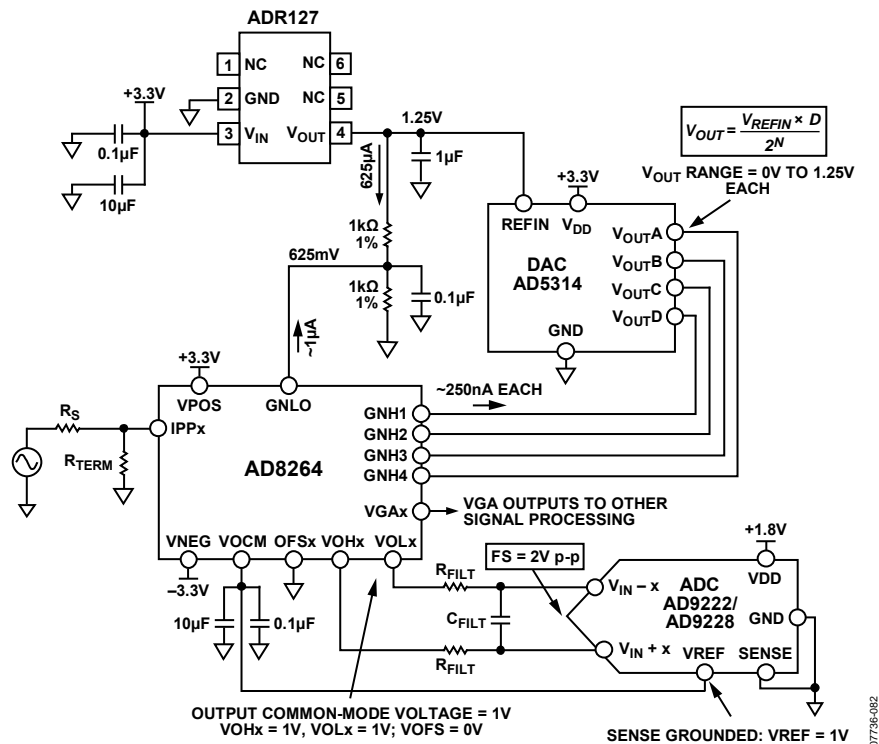
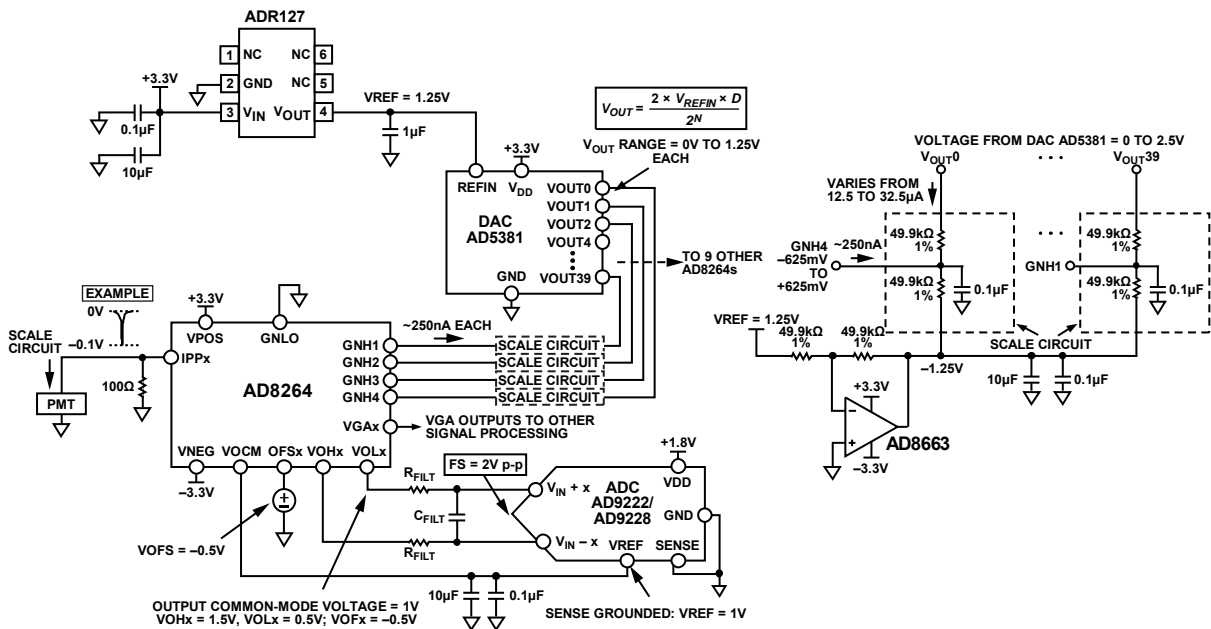

Figure 112. Application Concept of the **AD8264** with the **AD5314** 10-Bit DAC and the **AD9222/AD9228** 12-Bit ADC
Figure 113. Concept Application of AD8264 with 40-Channel AD5381 12-Bit, 3 V DAC and AD9222/AD9228 12-Bit ADC
The **AD8264** is particularly well suited for use in the analog front end of medical PET imaging systems. Figure 112 shows how to use the **AD8264** with the **AD5314** (a 4-channel, 10-bit DAC) and the **AD9222/AD9228** (an octal or quad, 12-bit ADC, respectively). The DAC sets the gain of the **AD8264**. Note that the full gain span of 24 dB is achieved with this setup because the gain control input range of the **AD8264** is very close to 1.25 V. The GNLO pin must offset by $1.25/2 = 625$ mV because the gain control input is bipolar around the voltage applied at GNLO. This is done with two 1 k Ω , 1% resistors. The approximately 1 μ A of bias current flowing from the GNLO pin does not contribute a significant error because the basic gain error of the **AD8264** is the limiting factor.
Figure 112 also includes the DAC output equation, which indicates that the output can vary between 0 V and $V_{REF} = 1.25$ V.
The single-ended-to-differential amplifier of the **AD8264** amplifies the VGA output signal by 6 dB and can provide the required dc bias of the **AD9222/AD9228**, as shown in Figure 112. The ADC is connected with the default internal reference because the SENSE pin is grounded. With this connection, the **AD9222/AD9228** VREF pin is an output that provides 1 V; this is then connected to the V_{OCM} input of the **AD8264**, which sets the output common-mode voltage of the V_{OHx} and V_{OLx} pins to 1 V. This voltage is very close to the recommended optimal value of $V_{DD}/2 = 0.9$ V. With this configuration, the ADC inputs are set to a full-scale (FS) of 2 V p-p.
The dc connected concept example in Figure 113 is an application with the 40-channel AD5381, 3 V, 12-bit DAC. The main difference between this example and Figure 112 is that, for the same ADR127 1.25 V reference, the full-scale output of the DAC is from 0 V to $2 \times VREFIN = 2.5$ V. Two options for gain control include the following:
- Use the same circuit as in Figure 112 but use only half the DAC output voltage from 0 V to 1.25 V. This is the simplest solution, requiring the fewest extra components. Note that the overall gain resolution increases by one bit to 11 bits over the 10-bit AD5314.
- Ground GNLO and scale the DAC output so that the GNHx inputs vary from -0.652 V to $+0.625$ V. Figure 113 shows a possible circuit implementation using a divider between the DAC output and a -1.25 V reference.
Figure 113 shows how the AD8264 is connected in a PET application. The PMT generates a negative-going current pulse that results in a voltage pulse at the preamplifier input and a differential output pulse on VOLx and VOHx.
A convenient method of verifying and customizing the signal chains shown in Figure 112 and Figure 113 is by ordering the corresponding evaluation boards available on www.analog.com. The AD8264-EVALZ is a platform through which the user can quickly become familiar with the features and performance capabilities of the AD8264. See the Evaluation Board section for more information.